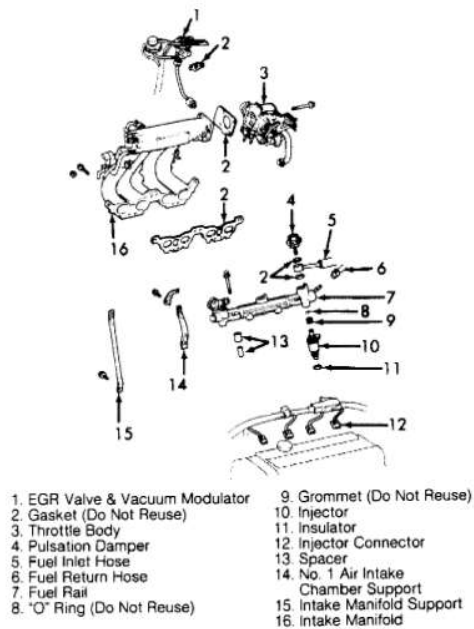

Fig. 2: Locating Fuel Injection Components (Celica - 2.2L 5S-FE)
7) Remove 2 fuel rail mounting bolts. Gently twist each injector to ease removal. Remove fuel rail with 4 injectors attached, using care not to drop injectors from rail. Replace injector if dropped. Remove 4 injector insulators and 2 rail spacers from intake manifold. Remove fuel injectors from fuel rail by gently pulling. Remove pressure regulator from fuel rail. See Fig. 2.